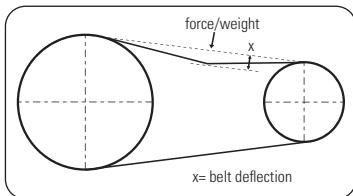

FIGURE 8.15 - BELT DEFLECTION
- Push the motor backwards until reaching the desired tension on the belt (Figures 8.15 and 8.16).
- The deflection should be 1/2" ($x = 12,5\text{mm}$) + 10% (Figures 8.15 and 8.16).
- When operating in places with a voltage different from the indicated, use a voltage transformer (not supplied with the product). Check the alignment of the pulleys and the belt tension before the first use (Figures 8.15 and 8.16).
A. Check the tension and the condition of the belt(s) (Figures 8.15 and 8.16).